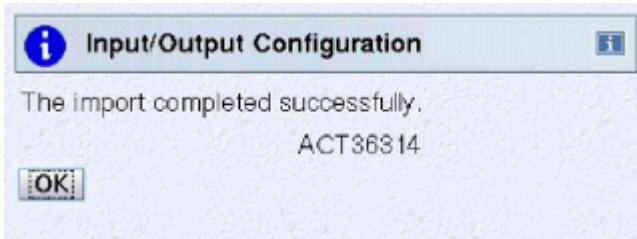

Figure 68. Input/Output Configuration success window
5. Select the file name and extension of the source file; then click **OK**. The Input/Output Configuration window with a message about the success of the import is displayed. Figure 68 on page 50 shows this window.